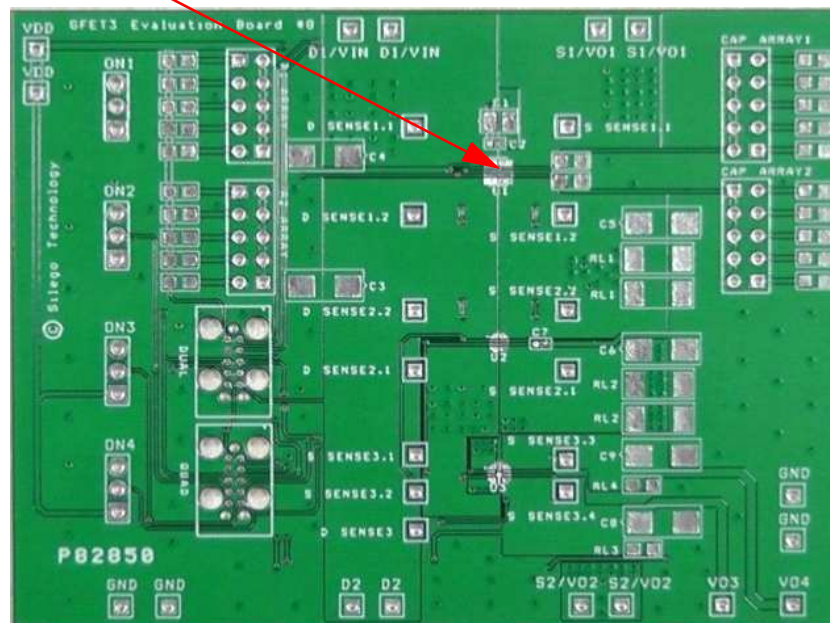

Figure 1. SLG59M1655V Evaluation Board.
2. Since the D and S pins dissipate most of the heat generated during high-load current operation, it is highly recommended to make power traces as short, direct, and wide as possible. A good practice is to make power traces with an absolute minimum widths of 15 mils (0.381 mm) per Ampere. A representative layout, shown in Figure 1, illustrates proper techniques for heat to transfer as efficiently as possible out of the device;
A GreenFET Evaluation Board for SLG59M1655V is designed according to the statements above and is illustrated on Figure 1. Please note that evaluation board has D\_Sense and S\_Sense pads. They cannot carry high currents and dedicated only for RDSON evaluation.